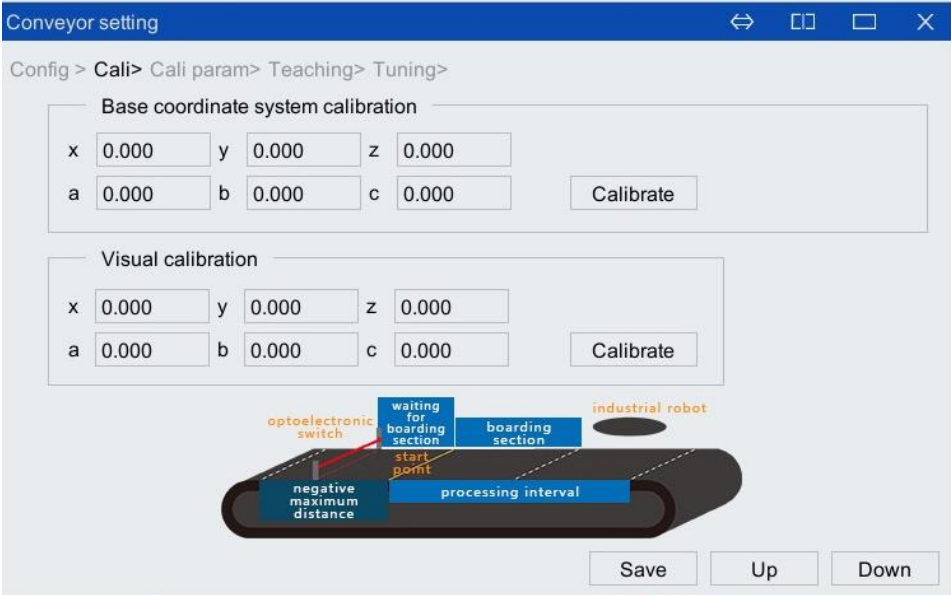

Figure 5-16 Conveyor belt calibration interface
Step2. Click <Down> to enter the [Cali] interface, and click the <Calibrate> button in the upper part of [Base coordinate system calibration]. As shown in Figure 5-16.